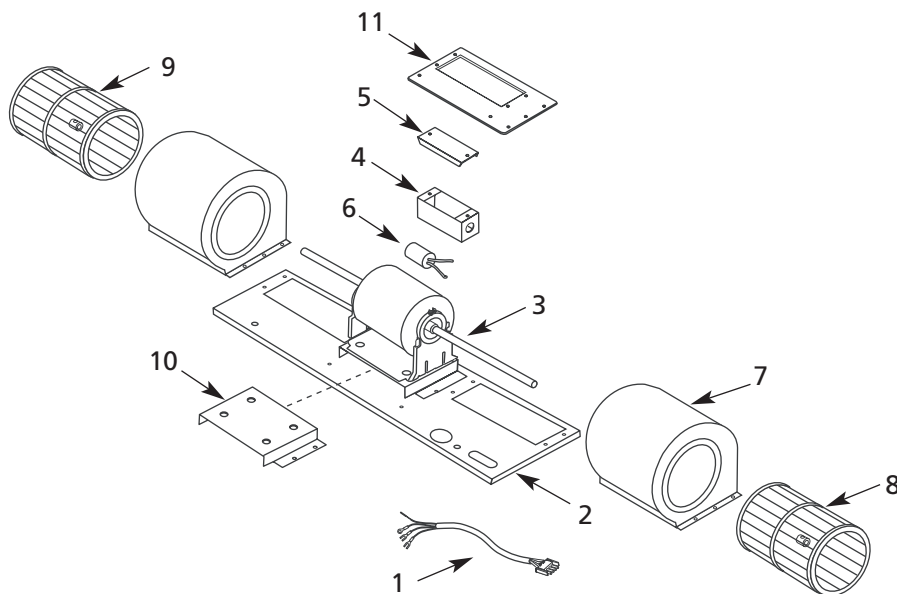

Figure 9 – Repair Parts Illustration for Air Curtain Motor/Blower Assembly
3. To replace blower wheel, first remove the three slotted hex head screws on outer blower ring assembly. (See Figure 9, Repair Parts Illustration.) Then remove the two hex head screws which hold the wheel onto the shaft.